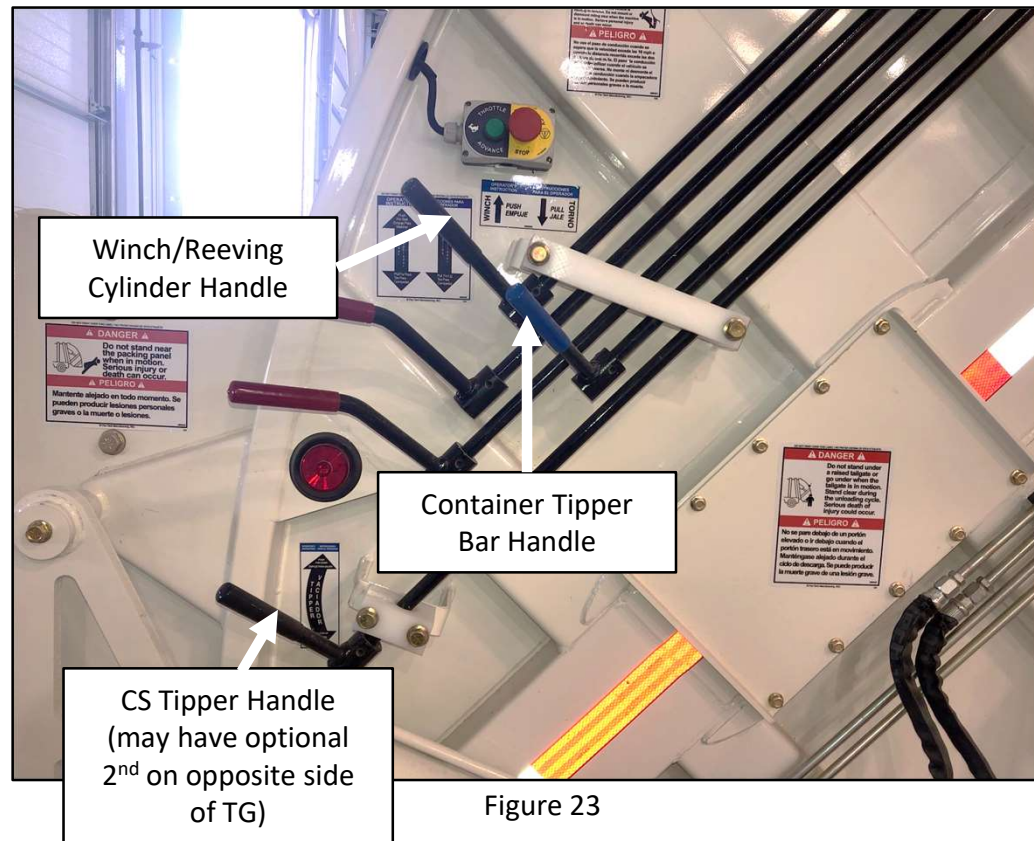

Figure 23
Rear loaders often come with additional options such as a winch, reeving cylinder, container tipper bar or cart tipper(s). These items require additional control handles as shown in Figure 23.
3. Utilizing control handle (Figure 23), slowly move tipper up until it catches the upper lip of the can
5. Utilizing control handle (Figure 23), slowly raise container into hopper